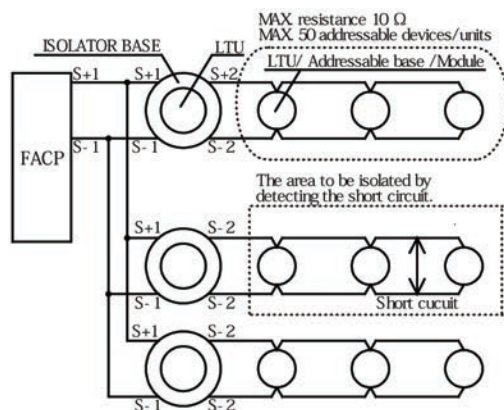

Figure 2: Style 4 SLC Wiring using AIB Base
1. Typical of NFPA Style 4 SLC (S+, S-) wiring arrangement using the AIB is shown in Figure 2.